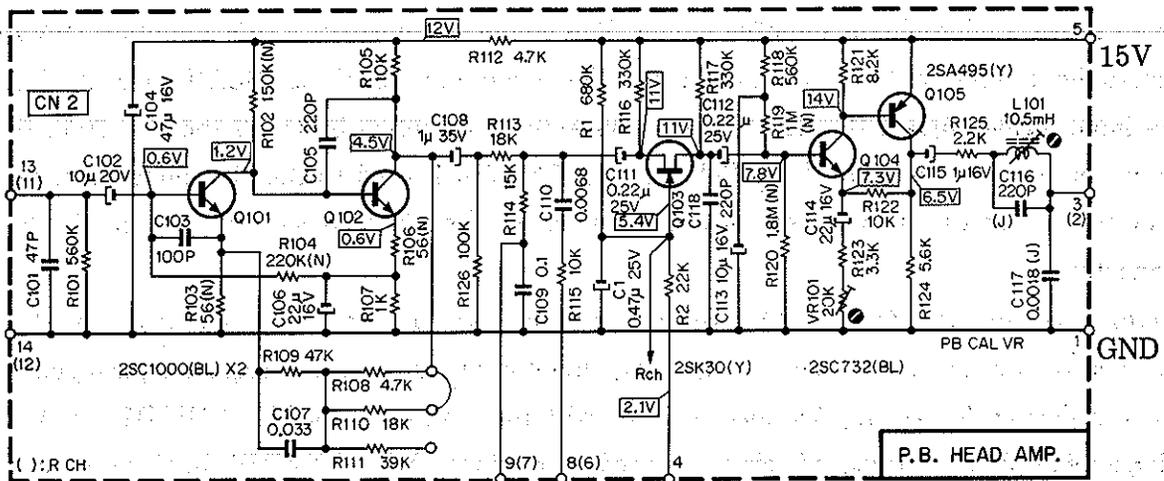
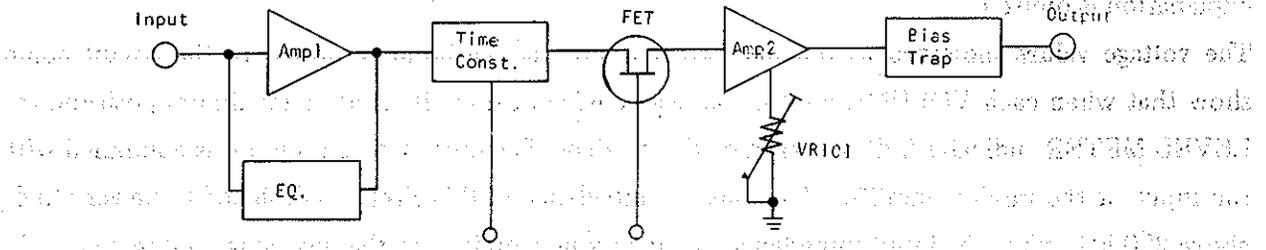

Fig.11 Playback Amp. Circuit Diagram
Fig.12 Playback Amp. System Diagram
Fig.11 shows the playback amplifier circuit, and Fig.12 is its system diagram. The playback head is connected with terminals 13(11) and 14(12). Terminal 4 is provided for the mute signal. Terminals 8(6) and 9(7) are connected with the TAPE switch which is used to select a time constant according to the characteristics of the magnetic tape used.